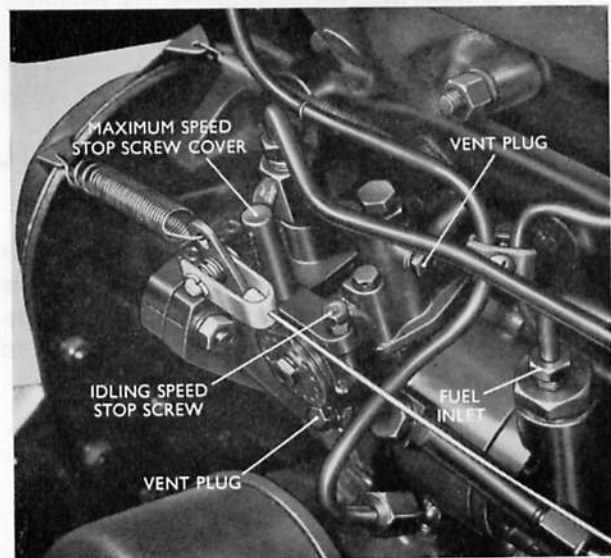

Fig. D.6. Fuel injection pump, showing idling and maximum speed stop screws and venting points
The engine idling speed is controlled by a hexagon-head stop screw, with locknut, on the governor control housing of the fuel injection pump (Fig. D.6).
The engine maximum speed is set by a hexagon-head screw, with locknut, on the governor control housing of the fuel injection pump. The screw is enclosed by a cover and sealed (Fig. D.6), against unauthorized interference.
6. Slacken by two or three turns, the two vent plugs on the fuel injection pump (see Fig. D.6). Operate the priming lever of the fuel feed pump until fuel, free of air bubbles, is discharged, then tighten the vent plugs.